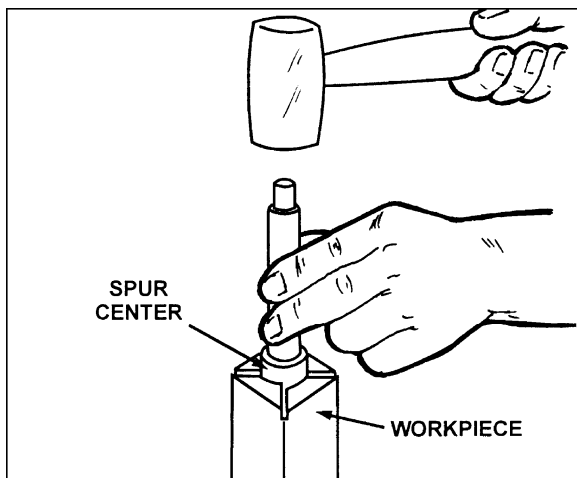

Figure 24
3. Drive the spur center about 1/4" into the workpiece, using a wood mallet or dead blow hammer as shown in Figure 24. Be careful that you do not split the workpiece.